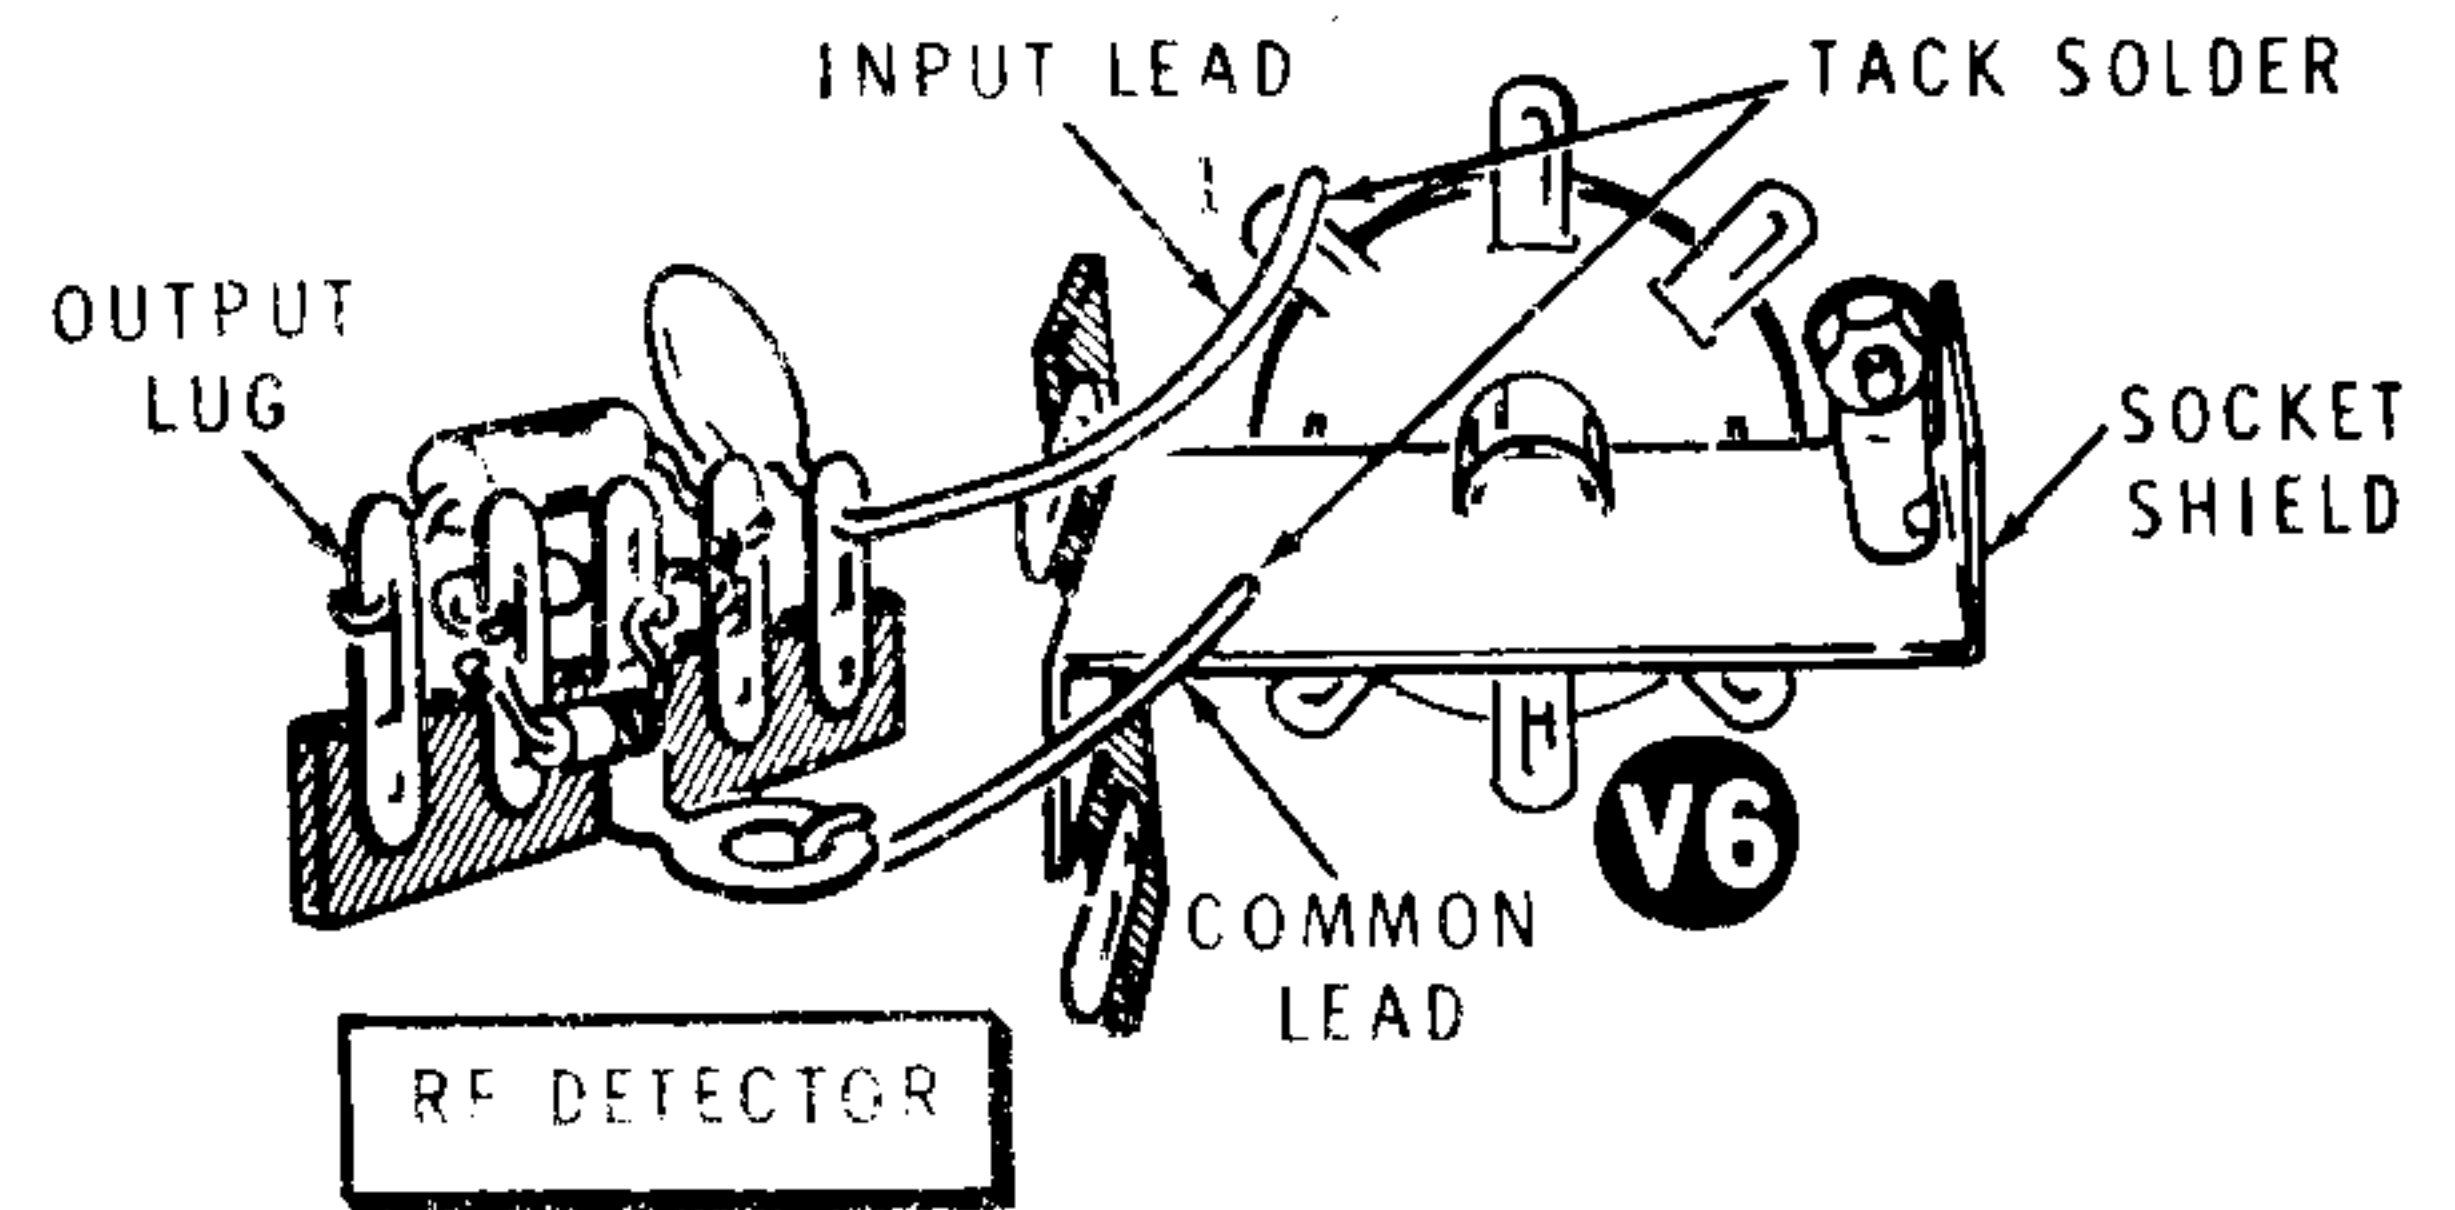

Figure 8-2
- ( ) Refer to Figure 8-2 and tack solder the input lead of the RF detector to lug 2 of tube socket V6 in the Transverter. Tack solder the common lead to the socket shield. Make sure these leads do not touch anything else.